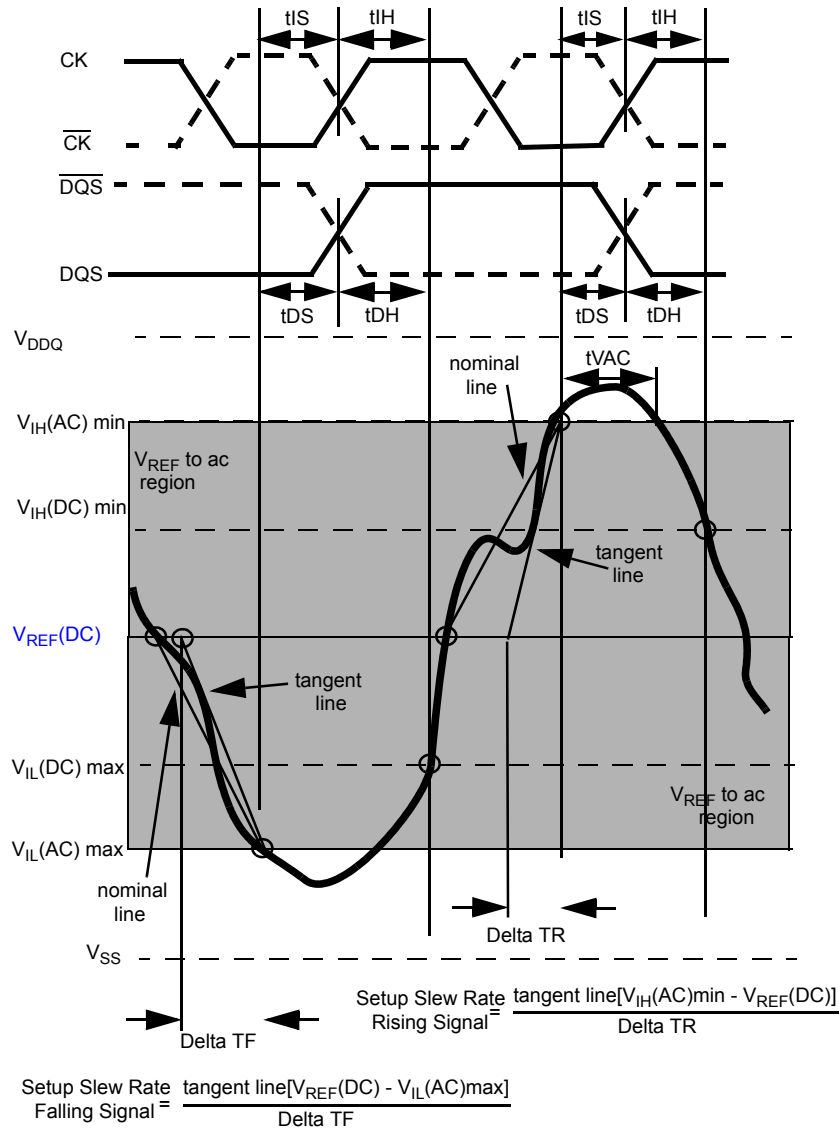

Figure 23. Illustration of tangent line for setup time t_{DS} (for DQ with respect to strobe) and t_{IS} (for ADD/CMD with respect to clock)
the slew rate between the last crossing of V_{REF}(DC) and the first crossing of V_{IL}(AC)max. If the actual signal is always earlier than the nominal slew rate line between shaded 'V_{REF}(DC) to ac region', use nominal slew rate for derating value (see Figure 23). If the actual signal is later than the nominal slew rate line anywhere between shaded 'V_{REF}(DC) to ac region', the slew rate of a tangent line to the actual signal from the ac level to dc level is used for derating value (see Figure 25).